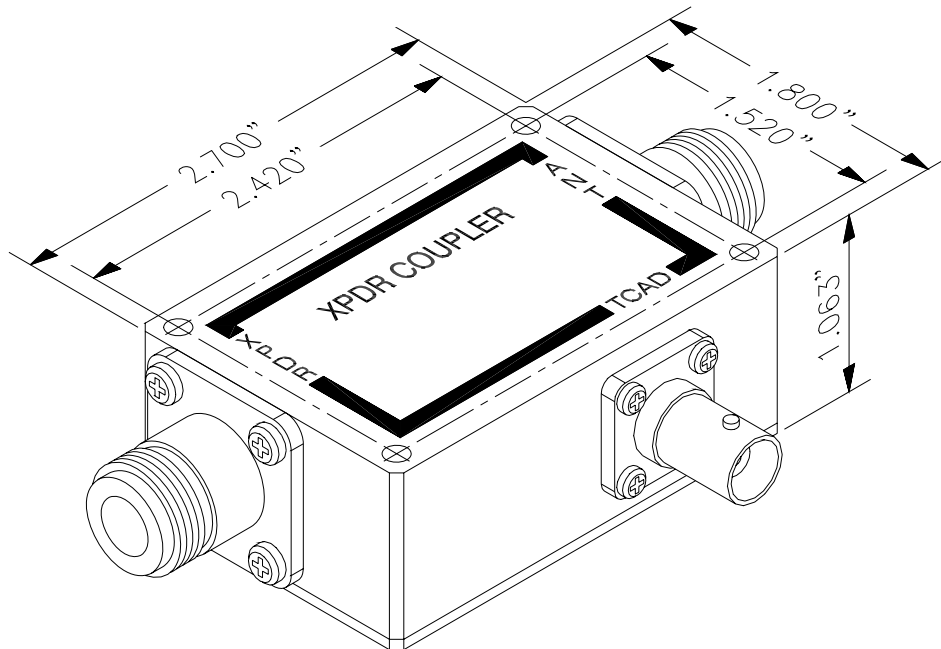

Figure 9 Transponder Coupler
- C. See Figure 9 for mounting dimensions.